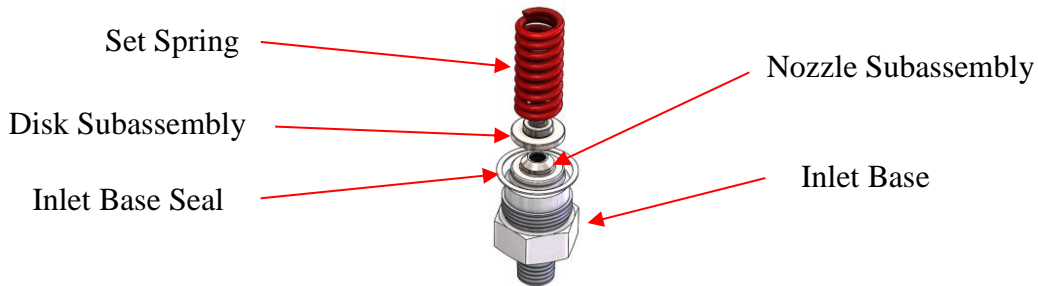

Figure 12: Inlet Base Components
6. Remove the set spring and discard the disk subassembly. See Figure 12.
7. Remove and discard the inlet base seal. See Figure 12.